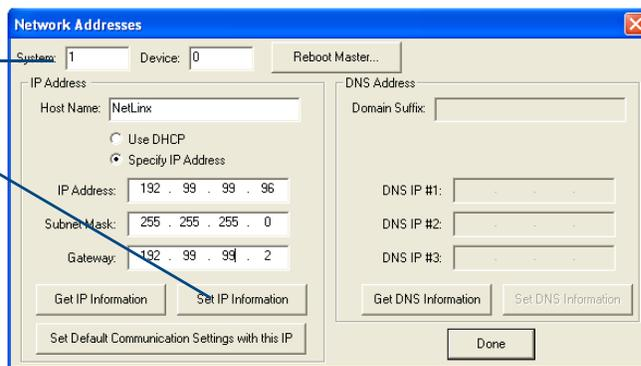

FIG. 22 Network Addresses dialog (for a pre-obtained Static IP Address)
- Select **Diagnostics > Network Addresses** from the Main menu to access the Network Addresses dialog (FIG. 22).